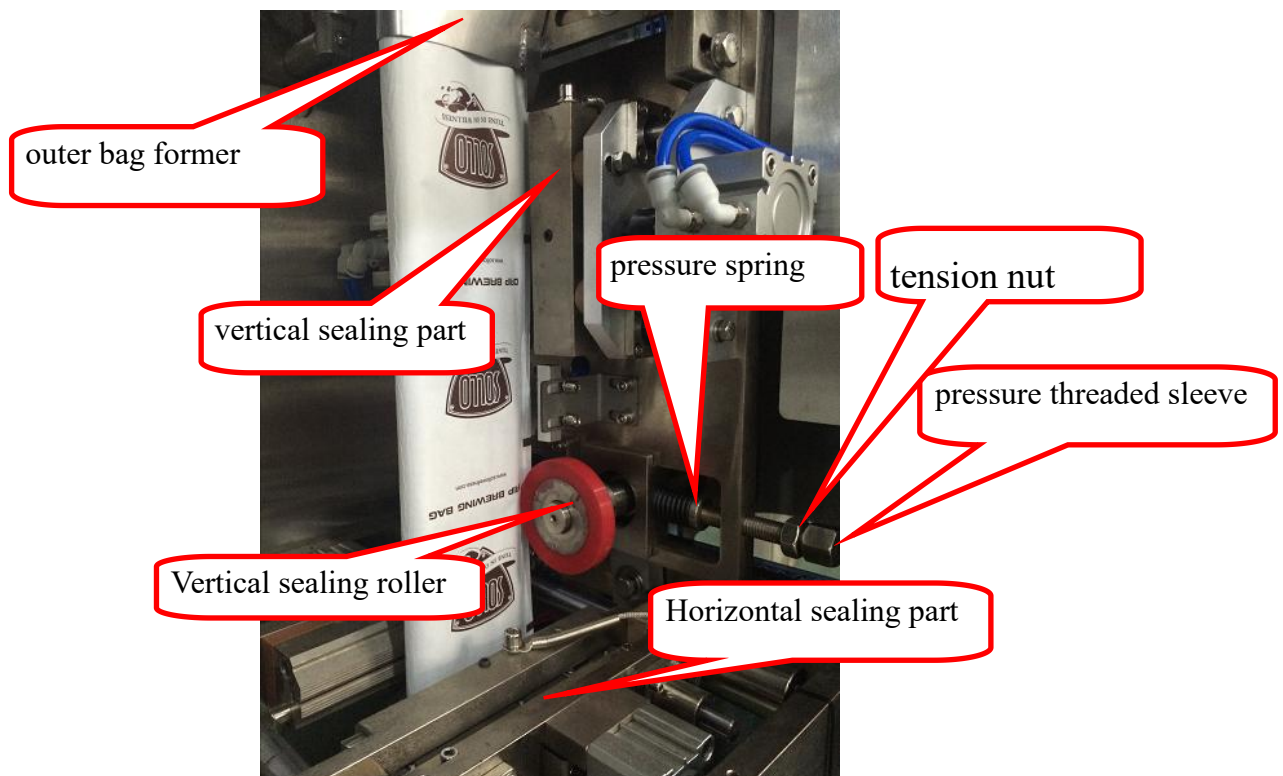

Fig. 3-6
2. Slide the outer film along the former into the vertical sealing roller, and adjust roller pressure to make film through it, then to press against the film (see fig. 3-6).